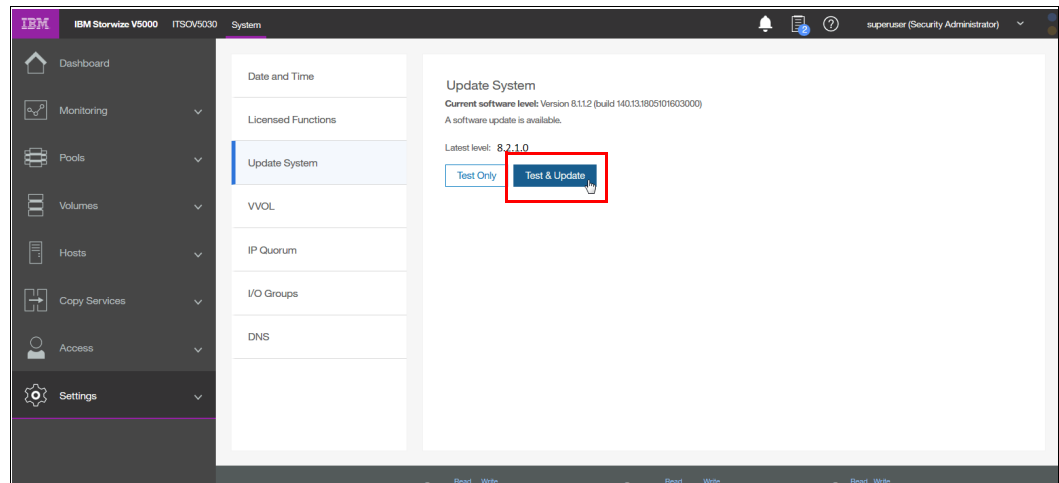

Figure 12-46 Update system window
1. Browse to **Settings** → **System** → **Update System** and select **Test and Update**, as shown in Figure 12-46.